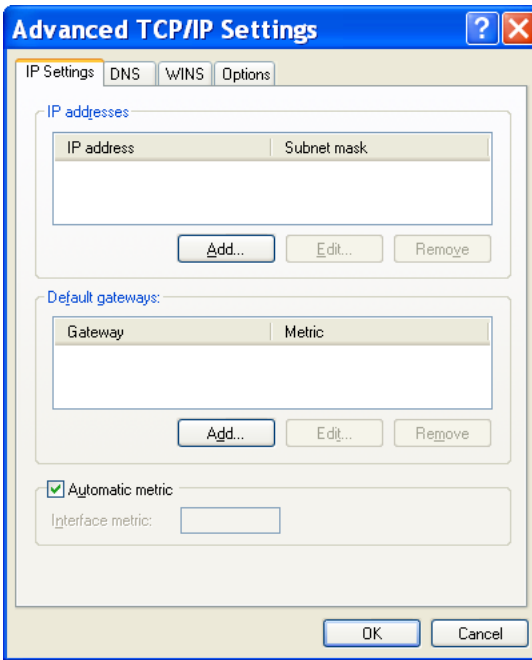

Figure 1-6. Advanced TCP/IP Settings
9. Click the Advanced button (in the lower-right corner of the dialog box). Refer to Figure 1-6.